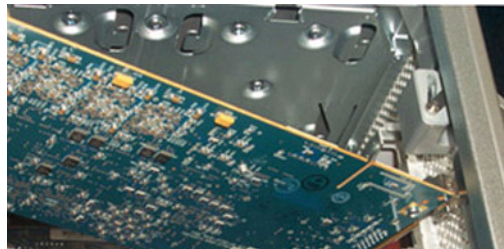

Figure 4. Holding the card above the slot at an angle
- Hold the card above slot 2 at a slight angle so that the front of the card is higher than the back of the card (where the card's Dig-iLink connector is located), as in Figure 4.